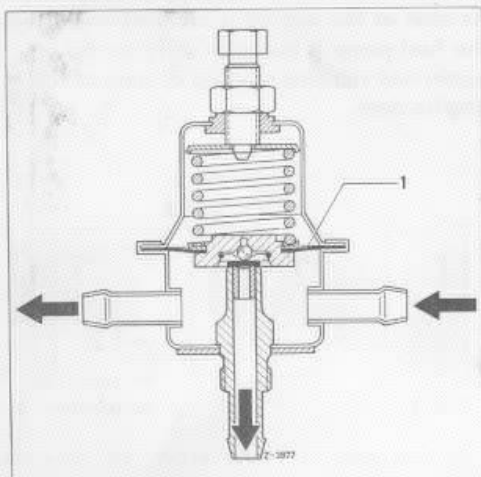

FIG.5
3. The fuel pump pressure which is also the injection pressure, is limited to 28.4 psi by the PRESSURE REGULATOR (Fig.5). This pressure must be kept at the specified value because the whole electronic system is programmed to this pressure. Corrections can be made at the adjustment screw.